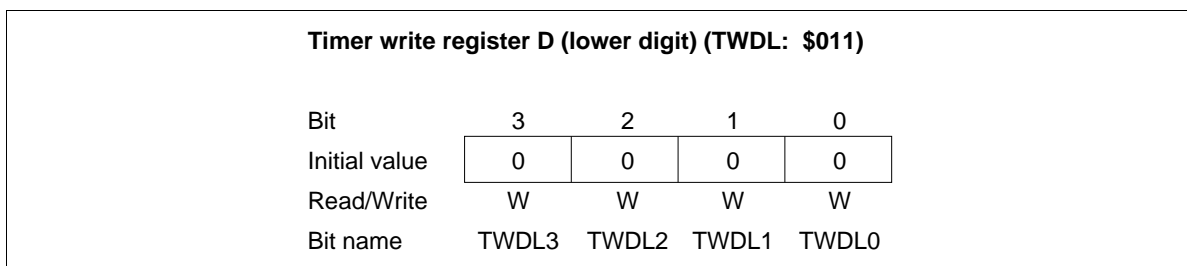

Figure 43 Timer Write Register D Lower Digit (TWDL)
- Timer write register D (TWDL: \$011, TWDU: \$012): Write-only register consisting of a lower digit (TWDL) and an upper digit (TWDU) as shown in figures 43 and 44. The operation of timer write register D is basically the same as that of timer write register C (TWCL: \$00E, TWCU: \$00F).